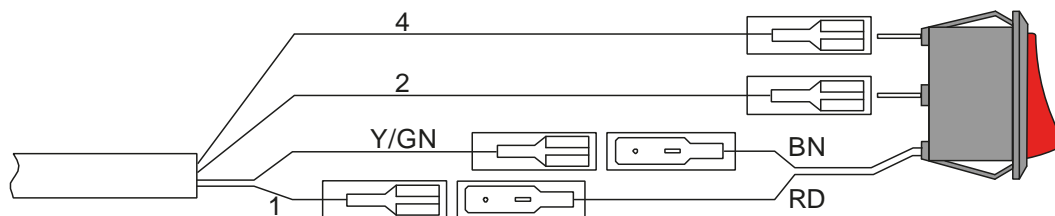

Figure 25: Control unit connection
- Establish an electrical connection as per the **PALFINGER Tail Lifts** circuit diagram (see also Figure 25).